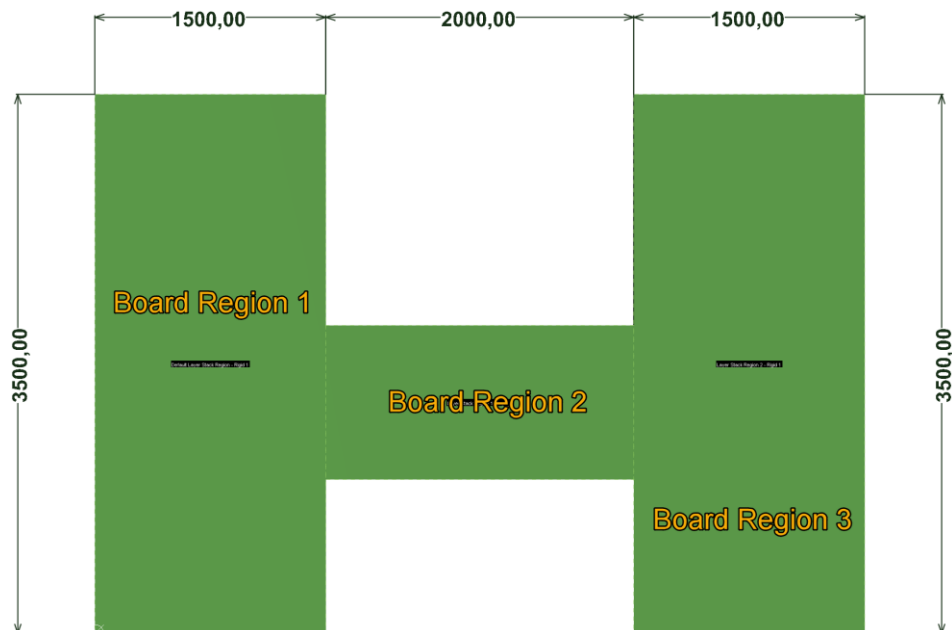

Figure 4. Defining the third Board Region
17. Create a third board region with the dimension 1500mil x 3500mils, as seen in Figure 4.